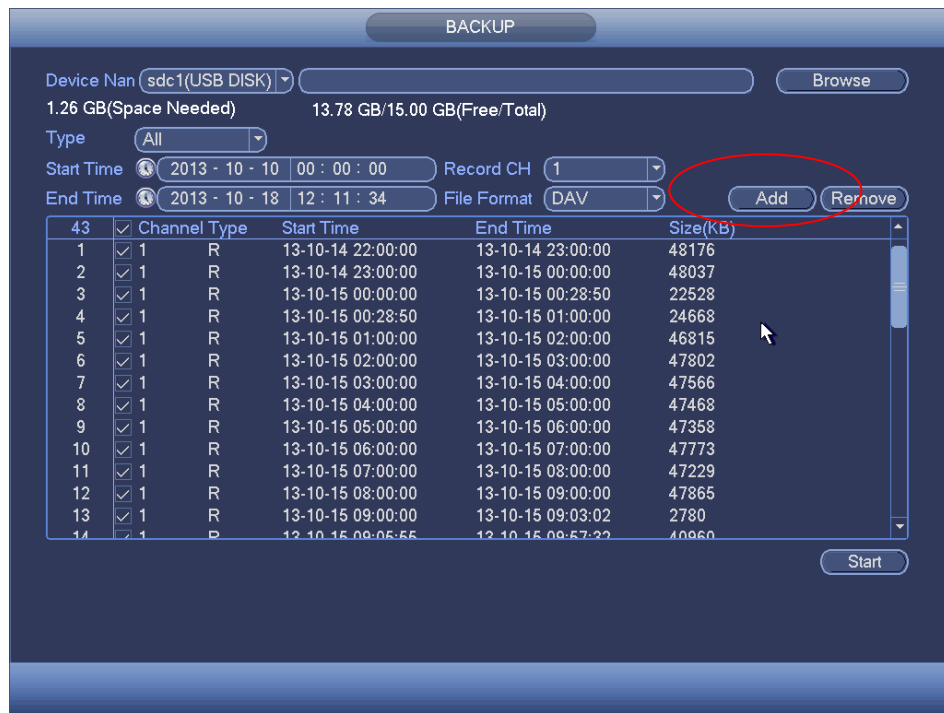

Figure 4-85
- Click add button, system begins search. All matched files are listed below. System automatically calculates the capacity needed and remained. See Figure 4-85.